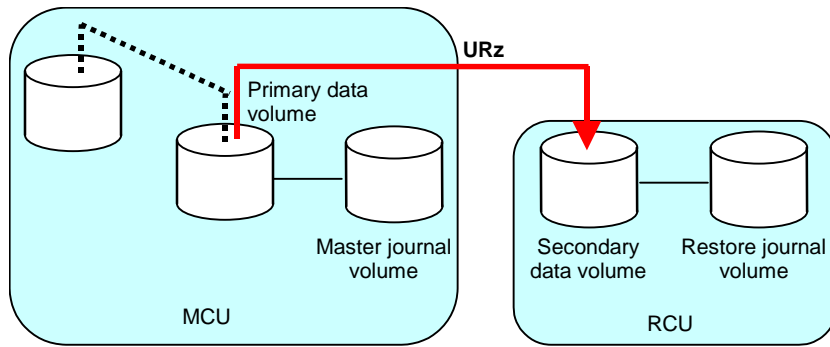

Figure 3-14 Restoring a Siz S-VOL - Step 3
3. Execute the Business Continuity Manager **YKSUSPND FORWARD** command on the URz pair to suspend the pair. After that, execute the **YKRESYNC FORWARD** command to change the copy direction to the original direction and re-establish the pair (see Figure 3-14).